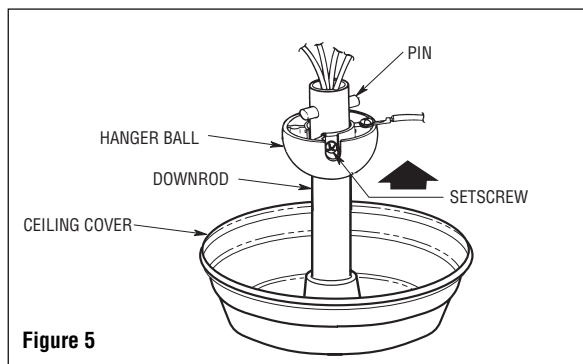

Figure 5
8. Position the ceiling cover over the downrod. Be sure the cover is oriented correctly, with the large opening at the top (Figure 5).
9. Reinstall the hanger ball on the downrod as follows. Route the motor leads through the hanger ball and slide the hanger ball over the downrod (Figure 5). Install the pin through the holes at the top of the downrod and slide the hanger ball up the downrod, aligning the ball so the pin is captured in the groove in the top of the hanger ball. Pull the hanger ball up tight against the pin and securely tighten the setscrew in the hanger ball. A loose setscrew could create fan wobble.